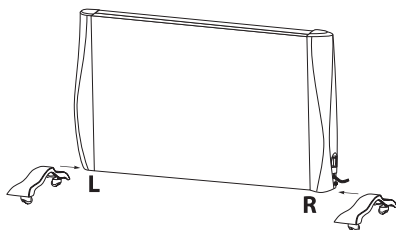

Figure 2
2. Fix the 2 feet into the bottom groove of the radiator, double check the R&L distinguish (Figure 2).